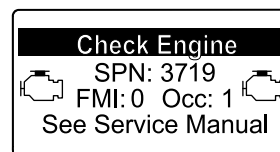

Figure 58
- Engine warning SPN 3719, FMI 0 (Figure 58)